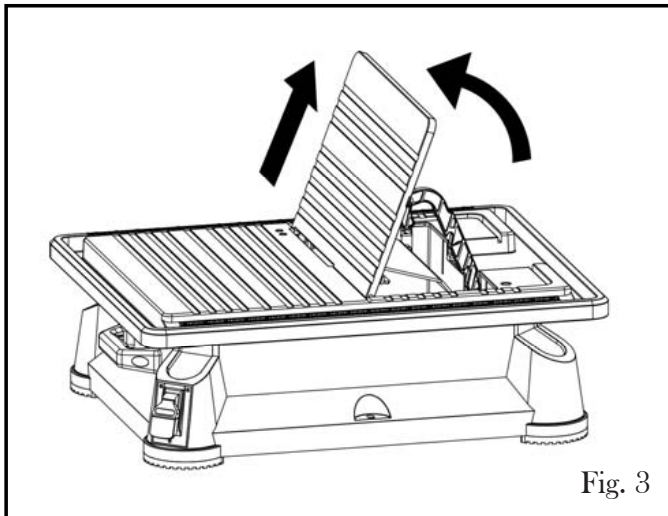

Fig. 3
INSTALLING THE TILE CUTTING WHEEL (Figs. 3, 4 & 5)
1. Unplug the saw, flip up and remove the bevel table (Fig. 3).